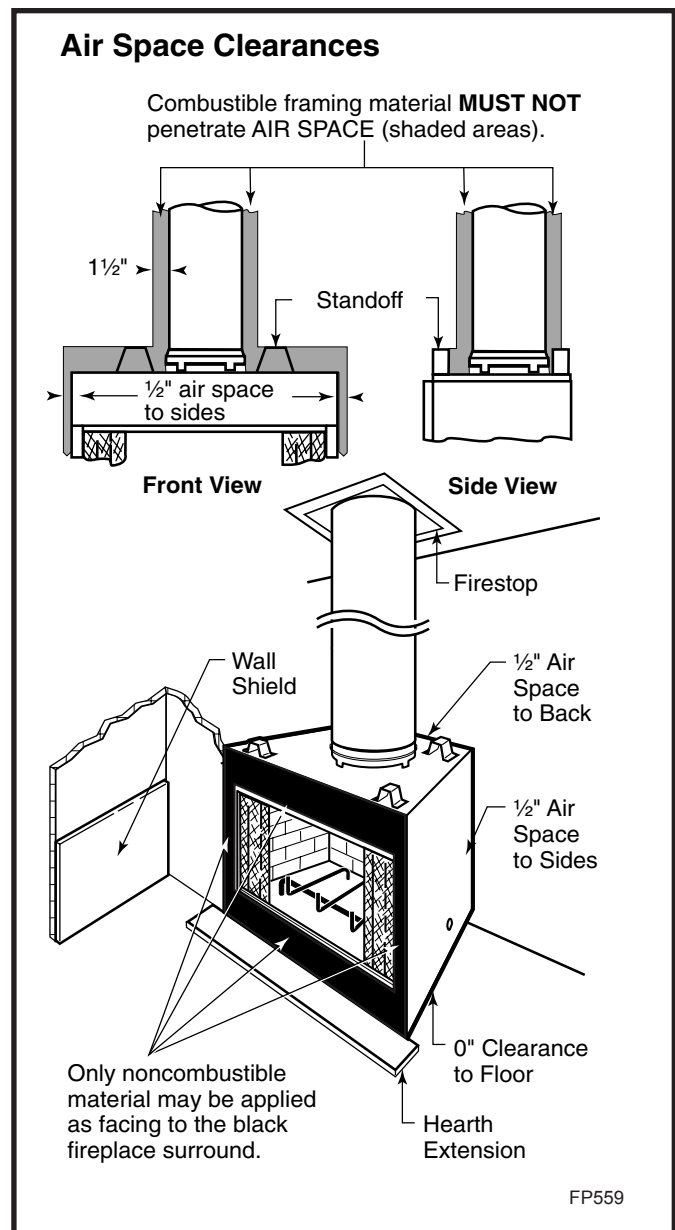

Fig. 21 Minimum clearances to combustibles.
**CAUTION:** All joints between the finished wall and the fireplace surround (top/sides) must be sealed with non-combustible material to prevent cold air leakage into the room. Only noncombustible material may be applied to the facing of the fireplace surround. (Black painted area) (Fig. 21)